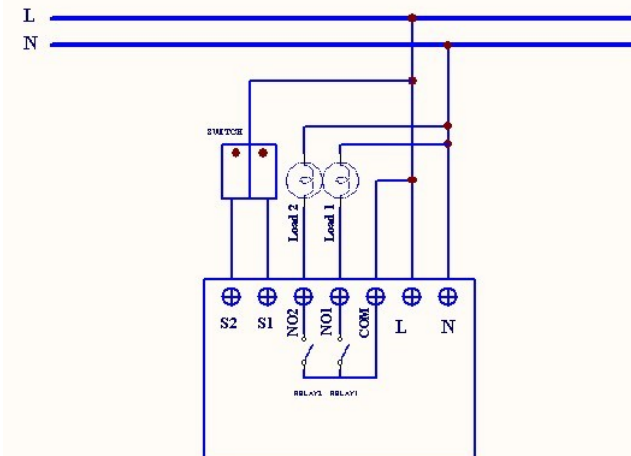

Fig 1. Assembling
2. Connect the wall switch to the PAN35 as Fig1 .